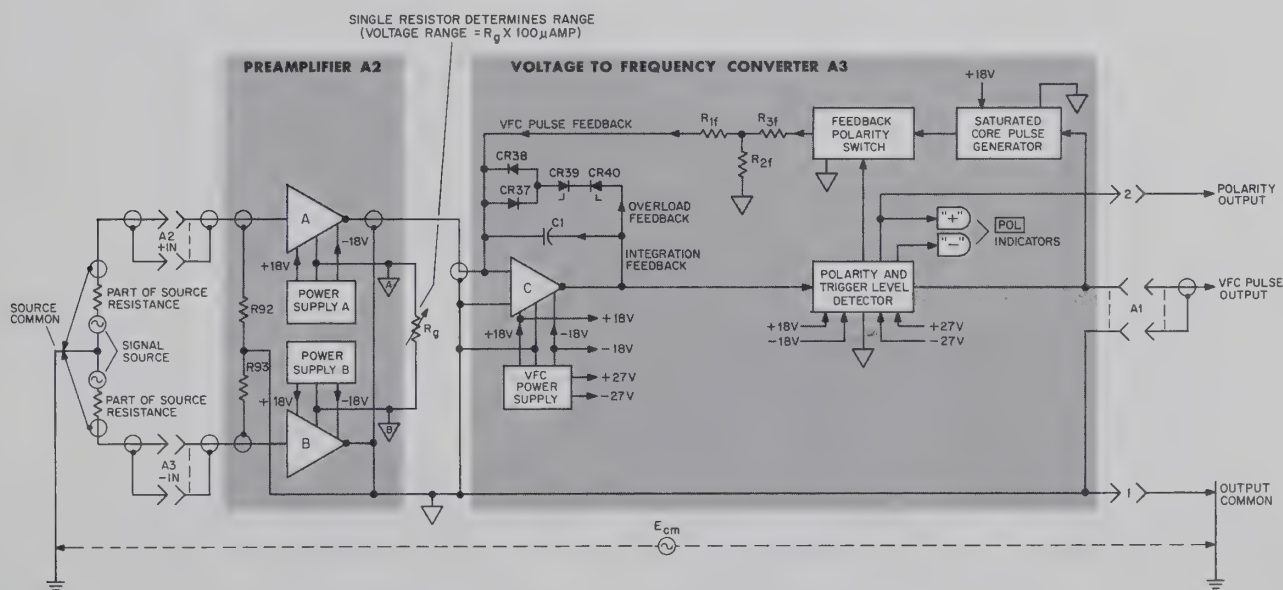

Figure 3-1. 2212A VFC Functions
3-4. The functional elements of the 2212A vfc are shown in Figure 3-1. Amplifiers A and B, with gain-bandwidth products characteristic of operational amplifiers, serve as the differential input preamplifier of the 2212A. They supply drive current to amplifier C that is directly proportional to the differential input voltage and inversely proportional to the value of  $R_g$ . Amplifier C is also operational, and similar in design to amplifiers A and B. Capacitor C1 from output to input connects amplifier C as a linear integrator.
1. An integrator (amplifier C in Figure 3-1).